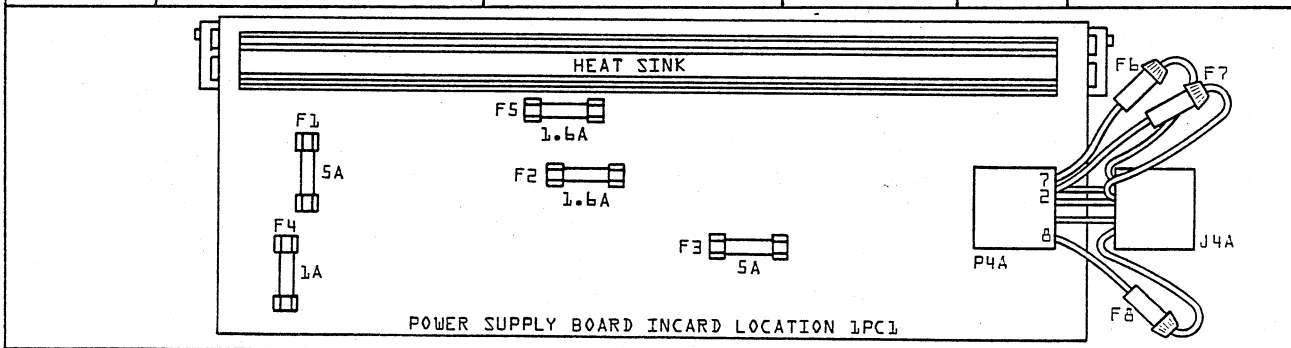

FIGURE 4-7. FUSES AND CIRCUIT BREAKER LOCATIONS
5. Using Figure 4-7 locate and inspect the five fuses on the power supply board. Also inspect the connections to circuit breaker 3CB1 and line filter 3LF01.